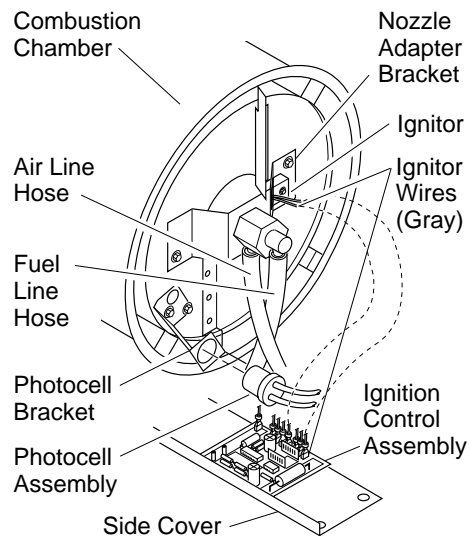

Figure 9 - Disconnecting Ignitor Wires from Ignition Control Assembly
4. Disconnect ignitor wires (gray) from ignition control assembly (see Figure 9). Pull the ignitor wires up through the hole in the lower shell.
5. Disconnect fuel line hose and air line hose. Remove photocell from photocell bracket (see Figure 9).
13. Connect and route fuel line hose and air line hose to nozzle adapter (see Figure 9).